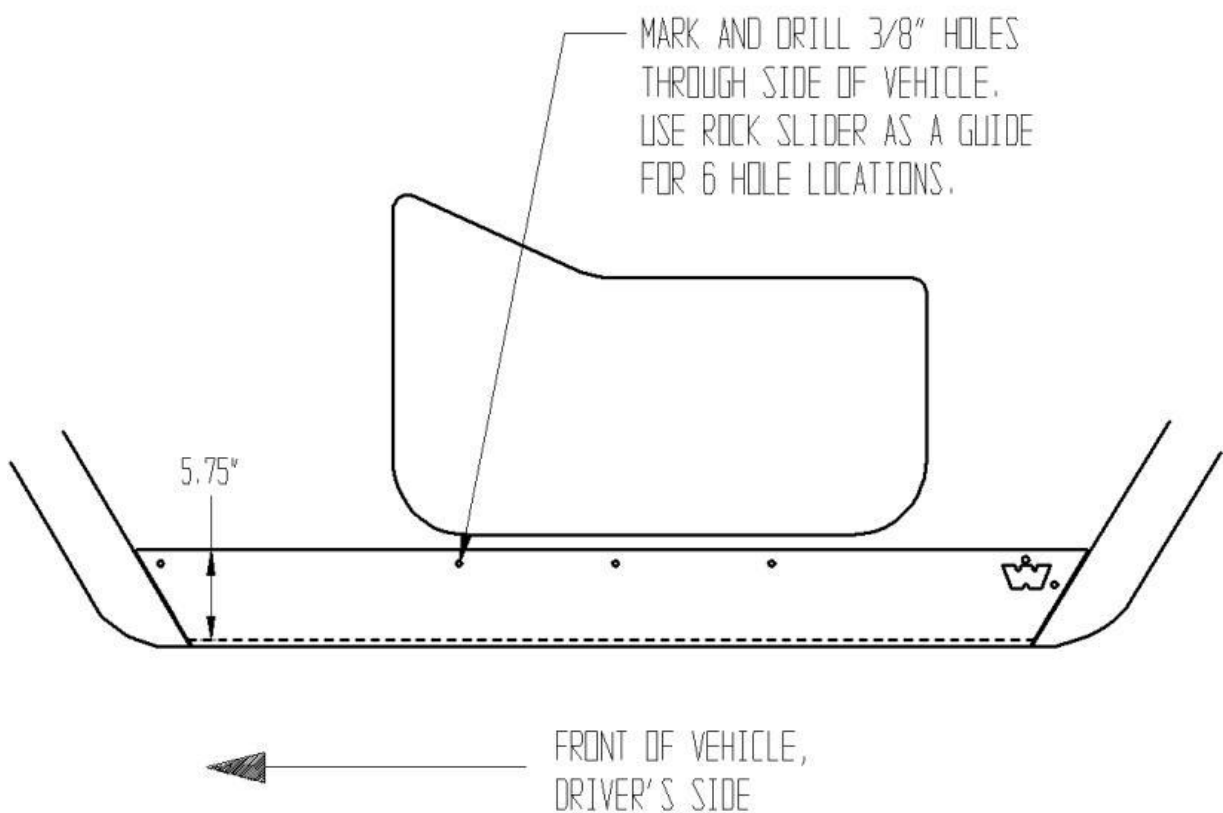

Figure 1, Driver's Side View
3. Carefully place one of the rock sliders on the side of the vehicle. Position the rock slider vertically by using the marks from the previous step. Align front to back using the fender flares. **Note:** Because of the wide variety of fender flares, the rock sliders may have a slight gap to the flares. The vertical position is also related to the flares. If the flares do not allow the rock slider to be positioned to the 5.75" vertical measurement, loosen the flares and move them slightly, to allow the rock slider to move down to the 5.75" measurement. **See Figure 1.**